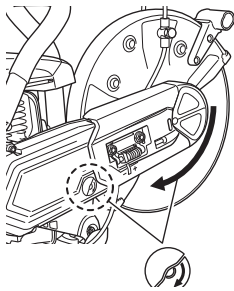

Fig. 8
3. Make sure the rotation direction of the diamond wheel conforms to the direction indicated on the clutch cover and install the diamond wheel. (**Fig. 8**)